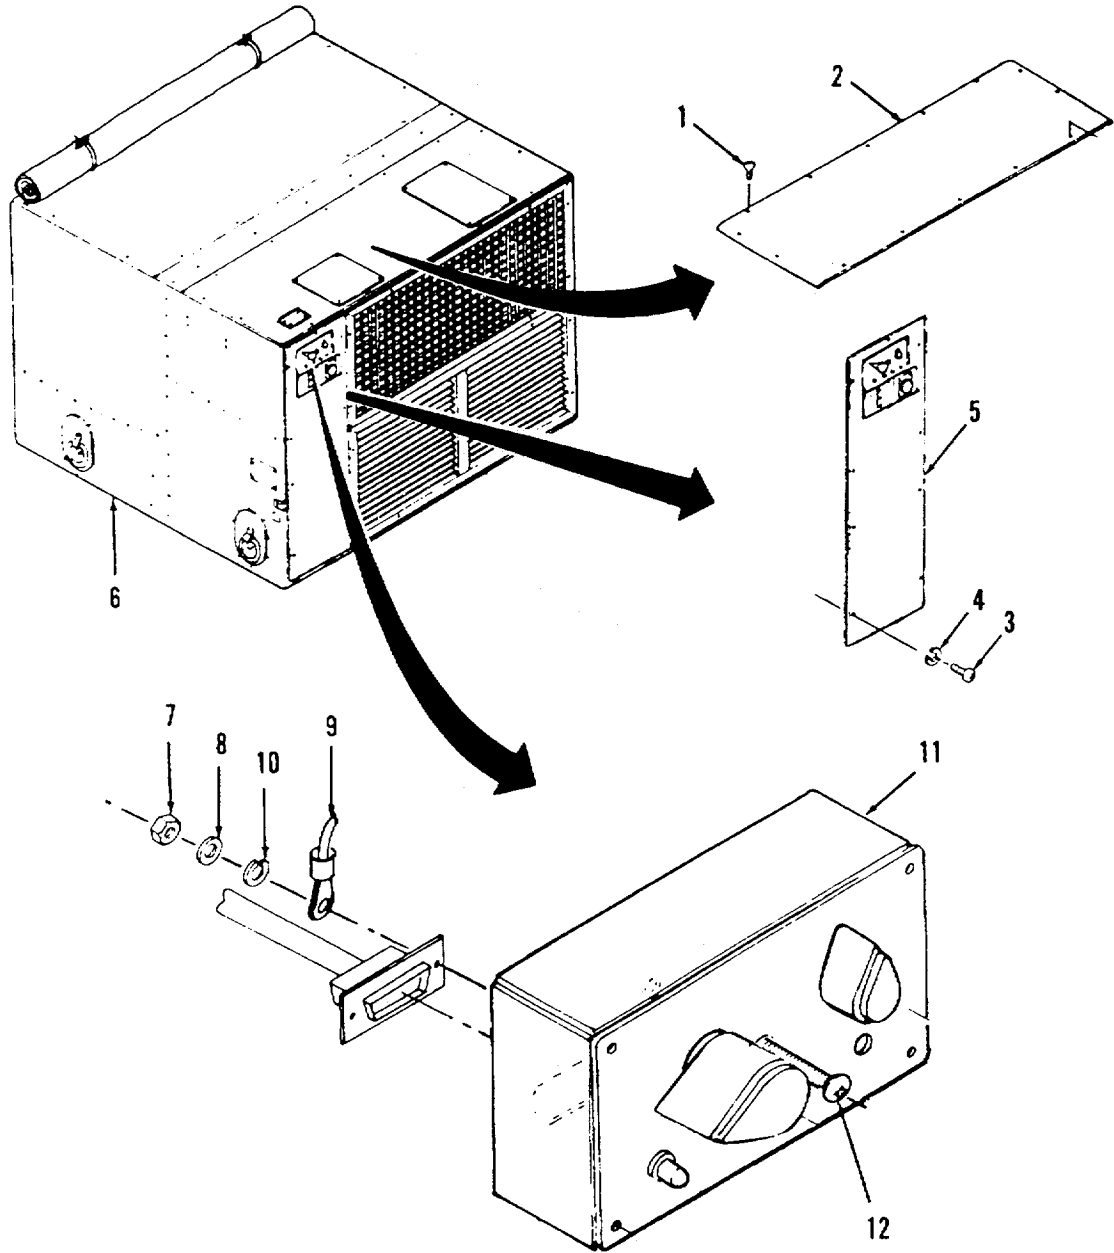

Figure 3-2. Remote Mounting of Control Panel.
**3-9. REMOTE MOUNTING OF CONTROL PANEL.** This paragraph is applicable only when the control panel is to be remote mounted. If the control panel is to be removed from the unit and installed in a remote location, follow instructions of this paragraph. For interconnecting cable circuit designations and required power input information, refer to Electrical Schematic Figure 1-5. (Refer to Figure 3-2).